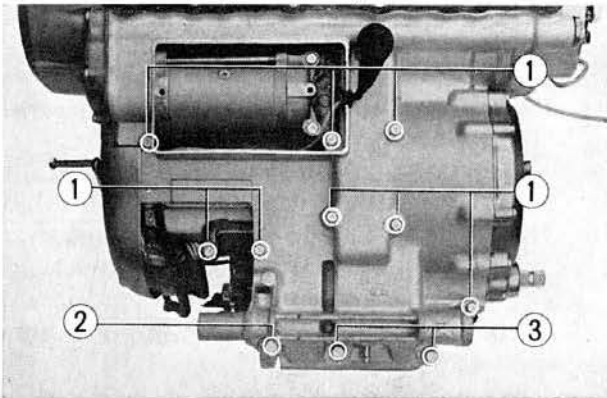

Fig. 3-73 ① 6mm bolts ③ 8mm bolts
12. Loosen the upper crankcase mounting bolts. (Fig. 3-73)